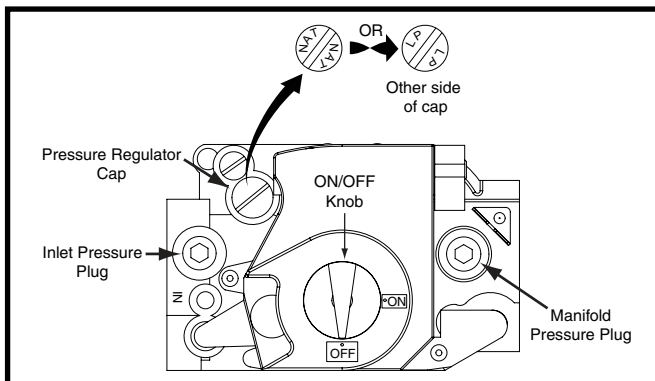

Figure 36. Gas Valve - Top View
This furnace can be converted from factory-equipped natural gas to Liquid Propane gas. Conversion of this valve requires replacement of the burner orifices on the manifold assembly and flipping the regulator cap to the side marked LP. See Figure 36 below. The orifices required for conversion are supplied with the furnace.
- **To prevent cross threading, screw the orifices (7) into the gas manifold assembly (5) by hand until snug, then tighten with a wrench.**
12. Install the appropriate LP/Propane orifices (7) into the gas manifold assembly (5).
13. Remove the pressure regulator cap (Figure 36) from the gas valve.
16. Install the gas manifold assembly (5) back into the burner assembly (6). Make sure the center of the orifices are aligned with center of the burners.
17. Secure the manifold assembly (5) to the burner assembly (6) with the four screws (4), removed in step 8.
1. Remove the inlet pressure plug (Figure 36 (page 28)) from the INLET side of the gas valve with a 3/16 Allen wrench.
1. Remove the manifold pressure plug (Figure 36 (page 28)) from the outlet side of the gas valve with a 3/16 Allen wrench.
6. If the manifold pressure is not set to the pressure specified in Table 13, remove the pressure regulator cap (Figure 36) from the gas valve. Slowly turn the adjusting screw underneath the cap with a small screwdriver until the appropriate manifold pressure is obtained. **NOTE:** Turning the screw clockwise increases the pressure, turning the screw counter-clockwise decreases the pressure.
7. After the manifold pressure is properly set, replace the cap so that the letters facing up represent the type of gas being used for the furnace. See Figure 36.
4. Turn the gas valve ON/OFF knob (Figure 36) to the ON position.